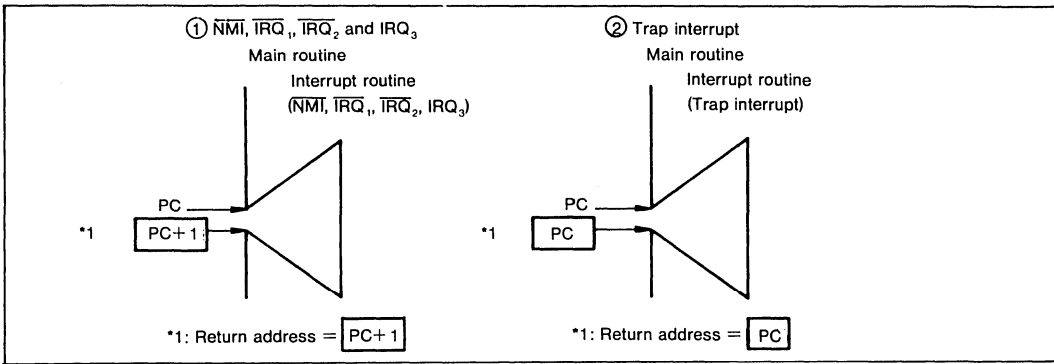

Figure III-11. Return Address
- Return address (figure III-11)